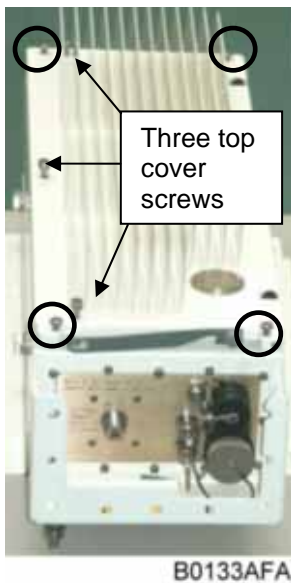

figure 7-2 Front and top cover screws
- Then remove the front cover by loosening the four M5 socket head cap screws (circle-marked in *figure 7-2* on the left). Do not remove those screws. When they are loosened, the front cover can be taken off.
- **Set the mains power switch inside to On (I):**